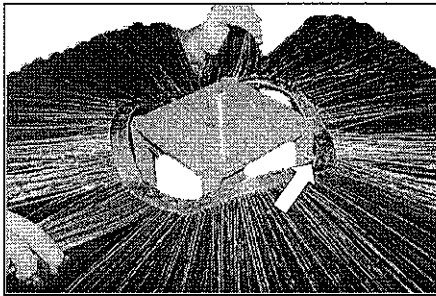

figure 36
8. Slide the first, polypropylene section onto the core (figure 36). Be sure drive pins (figures 36 and 37) straddle a tube.